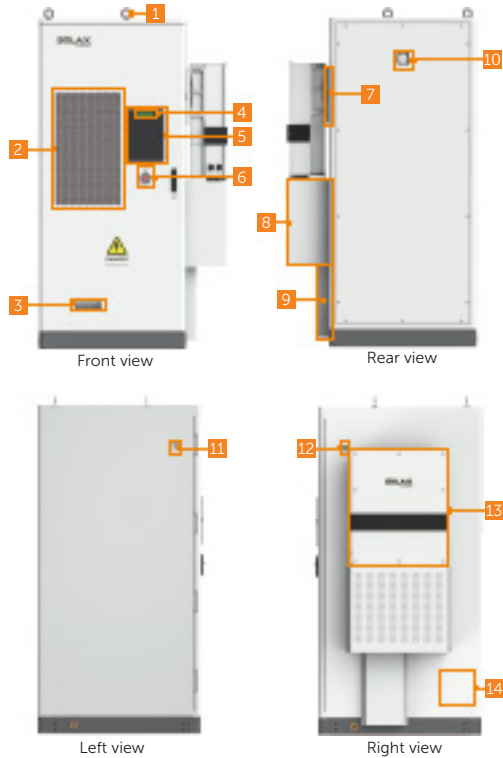

Figure 2-3 Parts description (in the closed state)
- The mark "*" indicates that parts in the front view (Figure 2-3) cannot be fully seen.